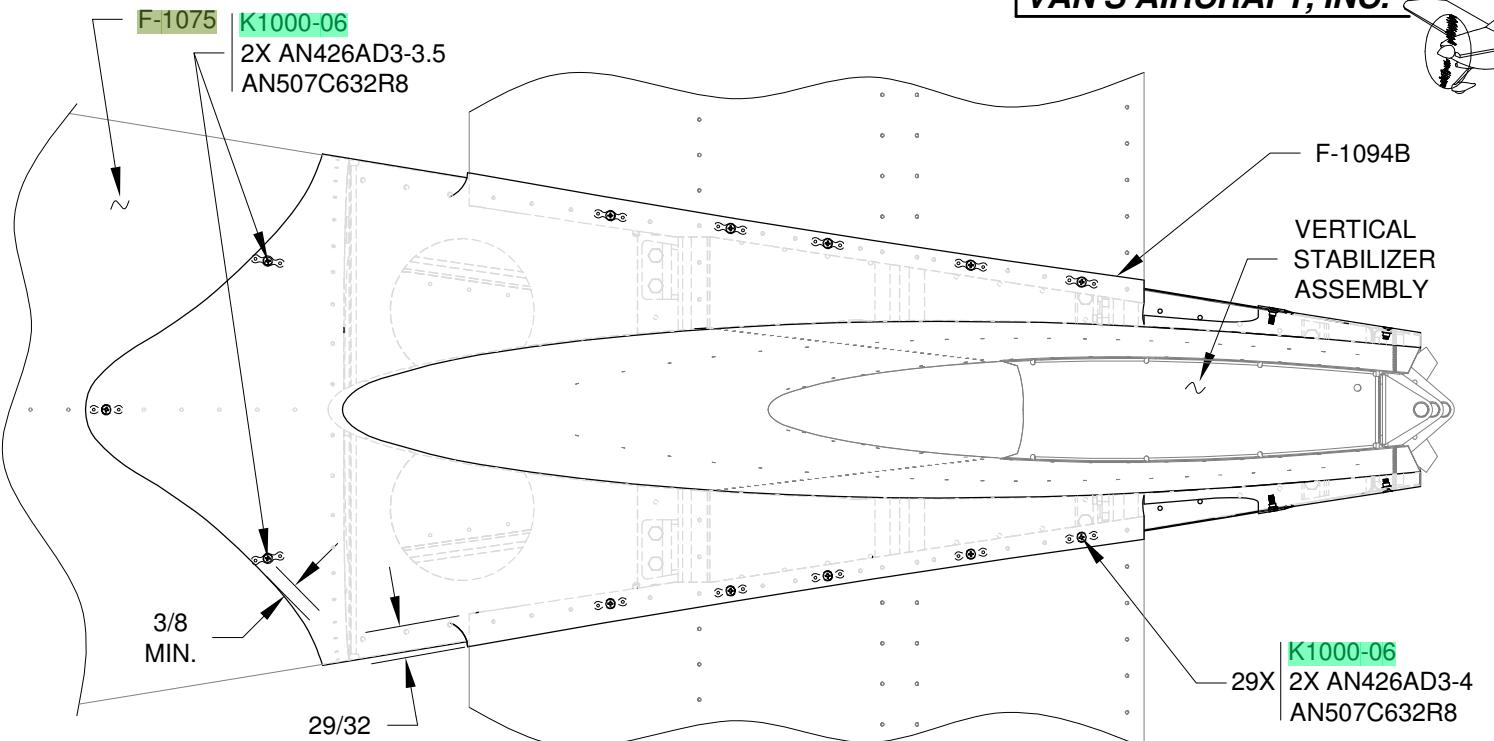
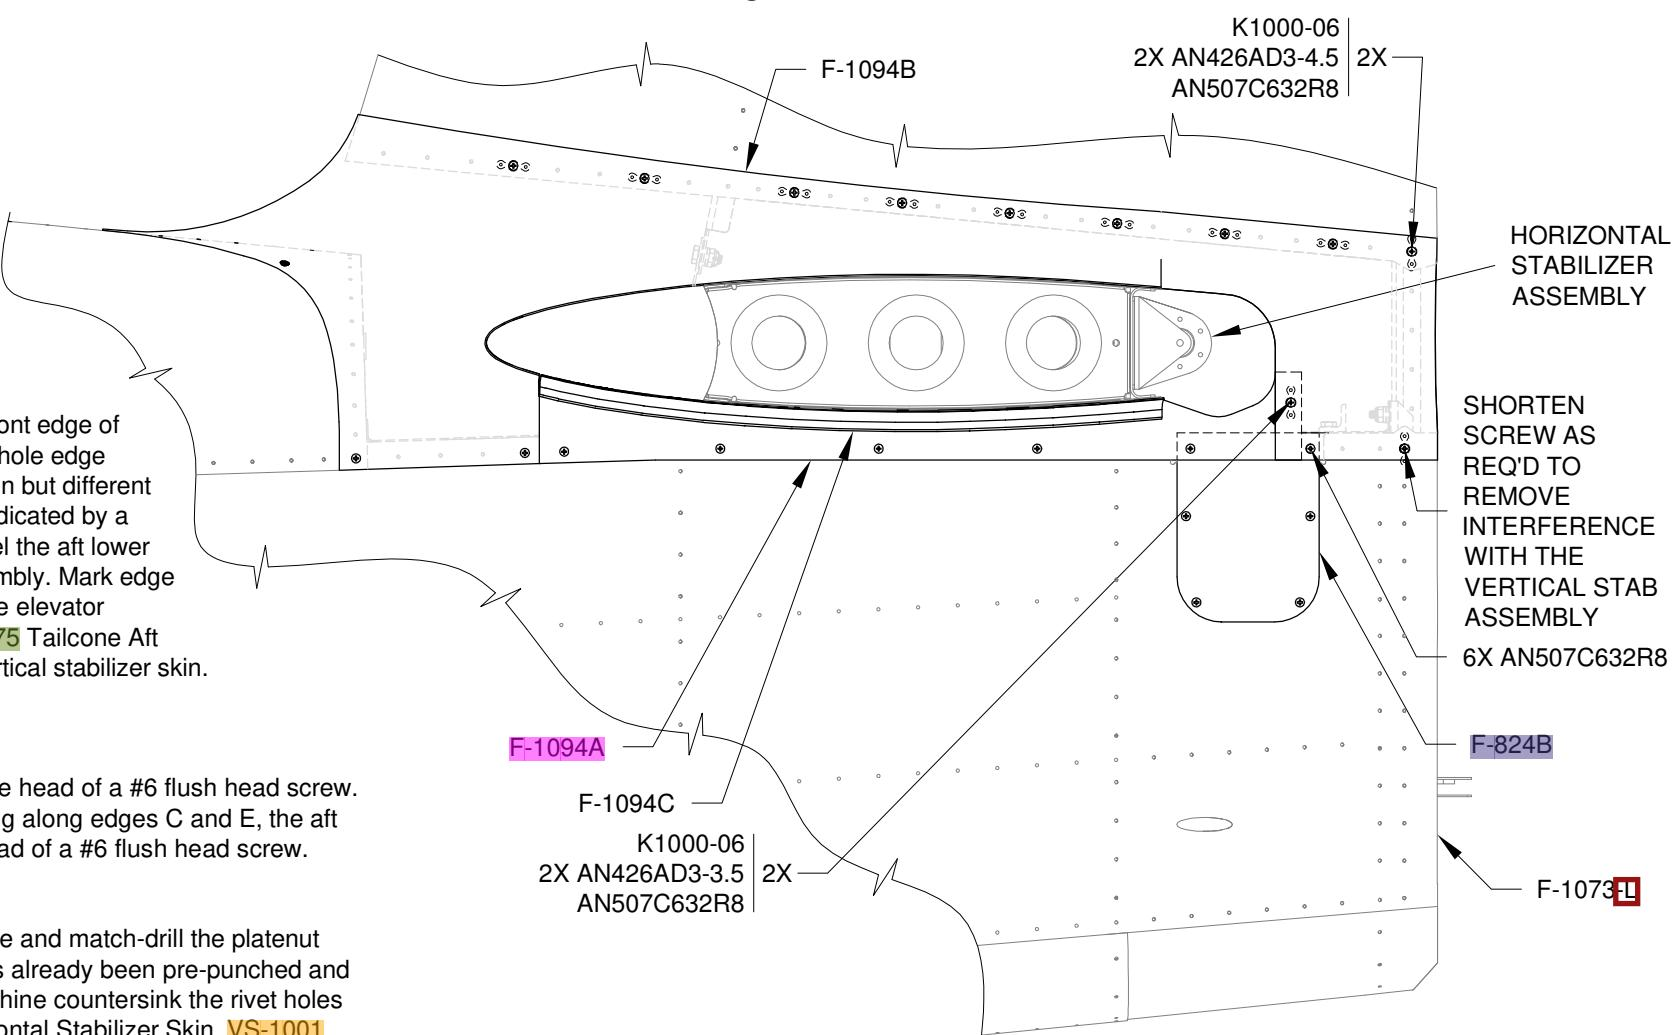

FIGURE 2: EMPENNAGE FAIRING INSTALLATION TOP VIEW
FIGURE 3: EMPENNAGE FAIRING INSTALLATION SIDE VIEW
Step 6: The locations just drilled #27 require nutplates. Use a K1000-06 nutplate (aligned with a #6 screw) as a drill guide and match-drill the platenut attach pattern into the F-1094A Empennage Gap Cover, horizontal and vertical assemblies (note the nutplate pattern has already been pre-punched and dimpled in the F-1075 Tailcone Aft Top Skin). Orient the platenut attach patterns as shown in Figure 2 and Figure 3. Machine countersink the rivet holes that attach the aft most nutplate to the vertical stabilizer assembly. Dimple the remaining locations on the HS-1001 Horizontal Stabilizer Skin, VS-1001 Vertical Stabilizer Skin and F-1073 Side Skin for the head of the nutplate attach rivets. Dimple then rivet the nutplates to the tailcone, horizontal and vertical assemblies as shown in Figure 2 and Figure 3.
Step 6: Machine countersink the F-1073L Tailcone Side Skin Left and F-1032L Tailcone Longeron Left to accept the dimples in the F-1094A Empennage Gap Cover and F-824B Cover Plate, **except the aft most hole which does not need not be dimpled since the empennage fairing is machine countersunk for the screw head already in this location, see Page 12-5, Figure 3**. See Figure 2, Section A-A.